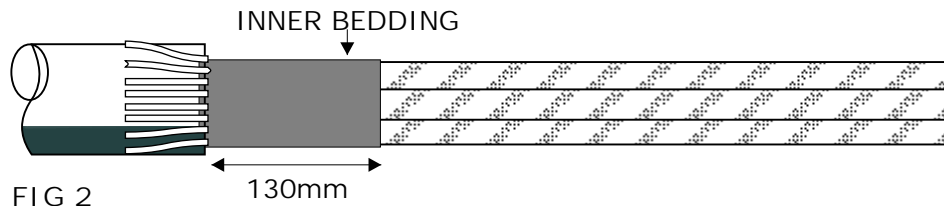

FIG 2
3. Expose the Armours in Accordance with Table 1 and expose the Inner Bedding to 130mm as shown in Fig 2.